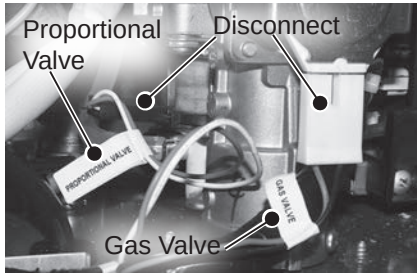

Figure 38 - Disconnecting gas valve and proportional valve
- 13** Locate the gas valve wiring harness and disconnect it. See Figure 38.
- 14** Locate the proportional valve wiring harness and disconnect it. See Figure 38.